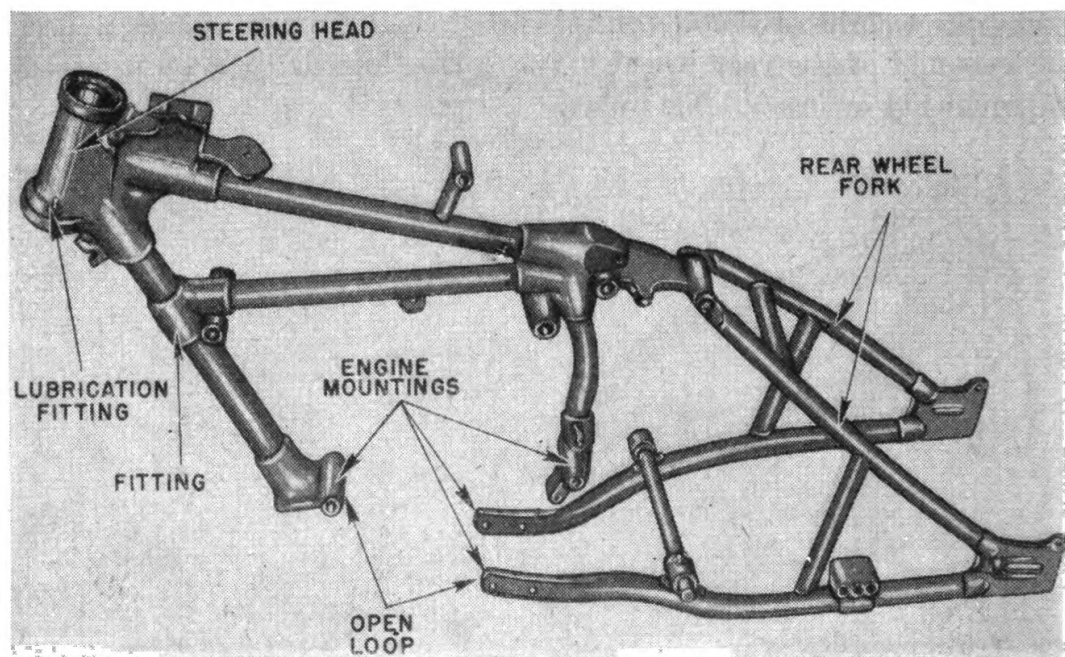

FIGURE 26.—Open-loop or keystone frame.
b. The open-loop (or keystone) frame (fig. 26) is not a complete rigid structure in itself. An engine mounted on this type of frame